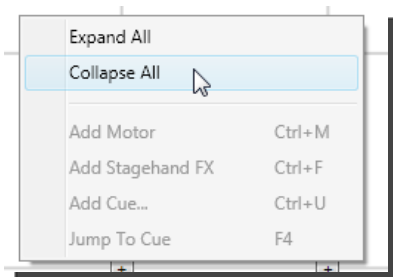

Figure 316
2. Hide all the speed and acceleration information for the cues by right-clicking in the **Cue Grid** and selecting **Collapse All** (Figure 316).